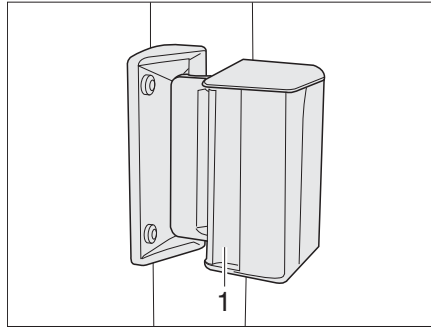

Fig. 61 Sliding window
- Press handle (Fig. 61,1) and push or pull it forward or backward at the same time.